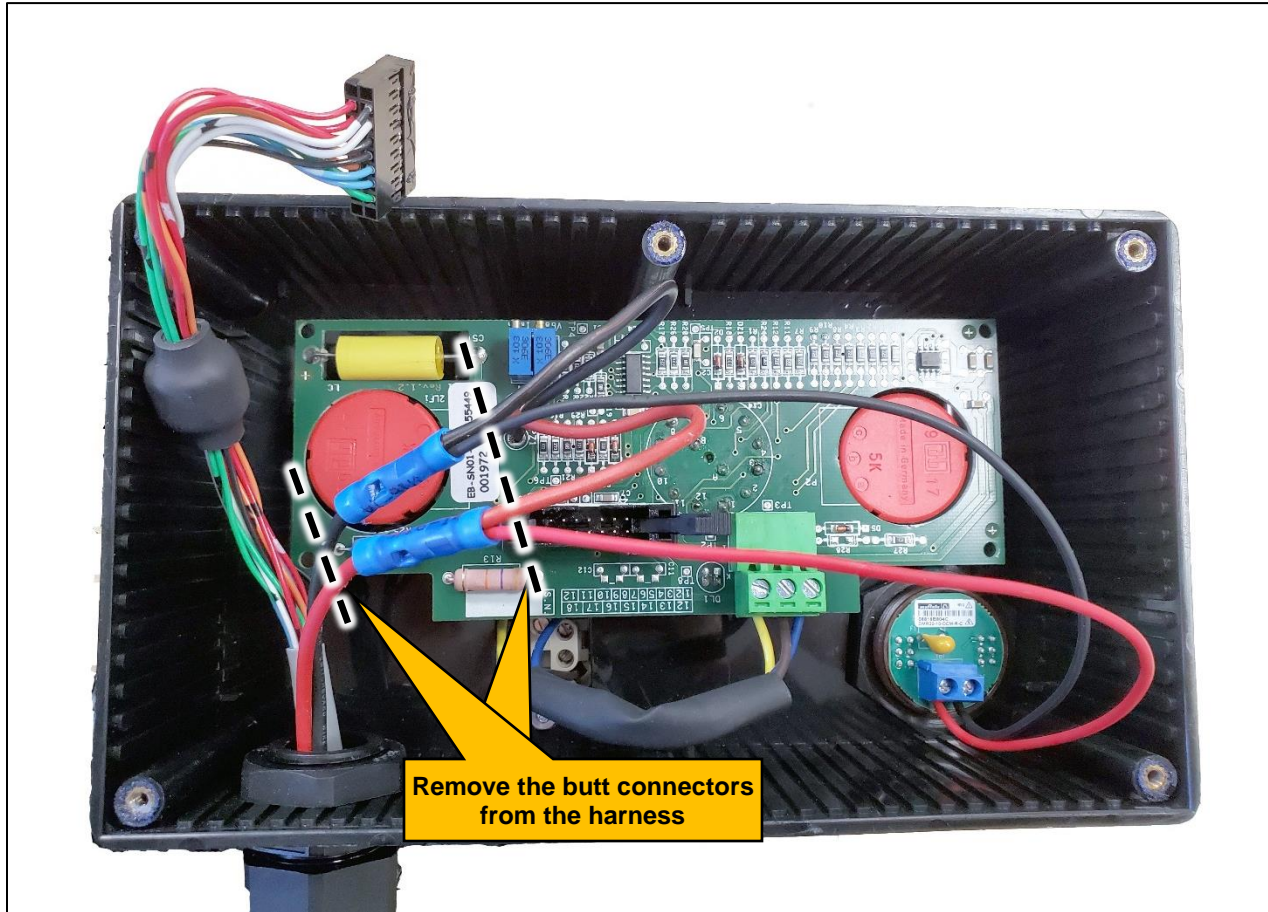

Figure 2 – Cut wires
- Remove the butt connectors from the red and black wires (Figure 2).